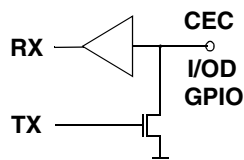

Figure 3. Typical μ C I/OD Driver
The Consumer Electronics Control (CEC) line is a high level command and control protocol, based on a single wire multidrop open drain communication bus running at approximately 1kHz (See Figure 3). While the HDMI link provides only a single point-to-point connection, up to ten (10) CEC devices may reside on the bus, and